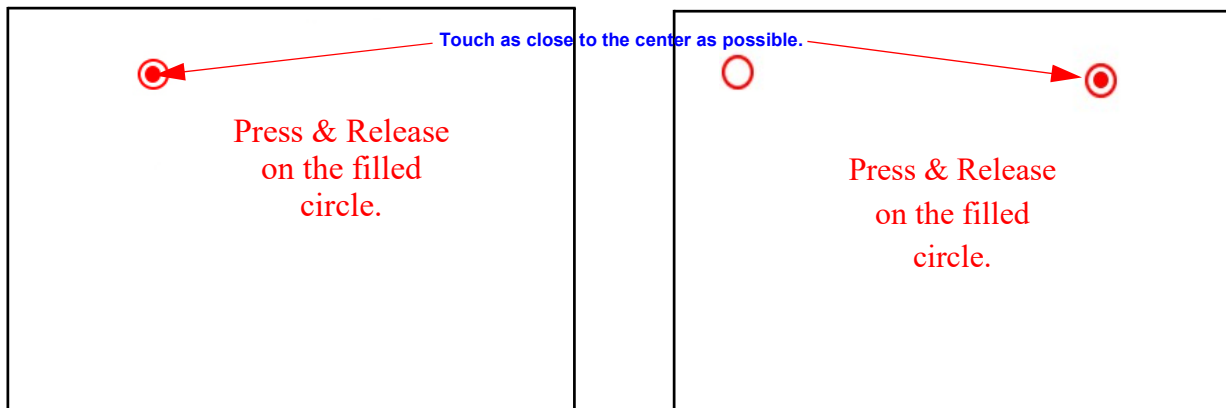

Figure 5-31 Second and Third Calibration Screens
- At the next screen, touch in the center of the circle displayed in the upper left corner. Release the touch to move to the next alignment circle. The tip of a stylus is suggested to successfully complete the alignment by being on-target more accurately than by using a finger tip. Exercise care to prevent puncturing the screen's membrane, which will void the instrument warranty. Figure 5-31 shows the second and third Calibration screens.